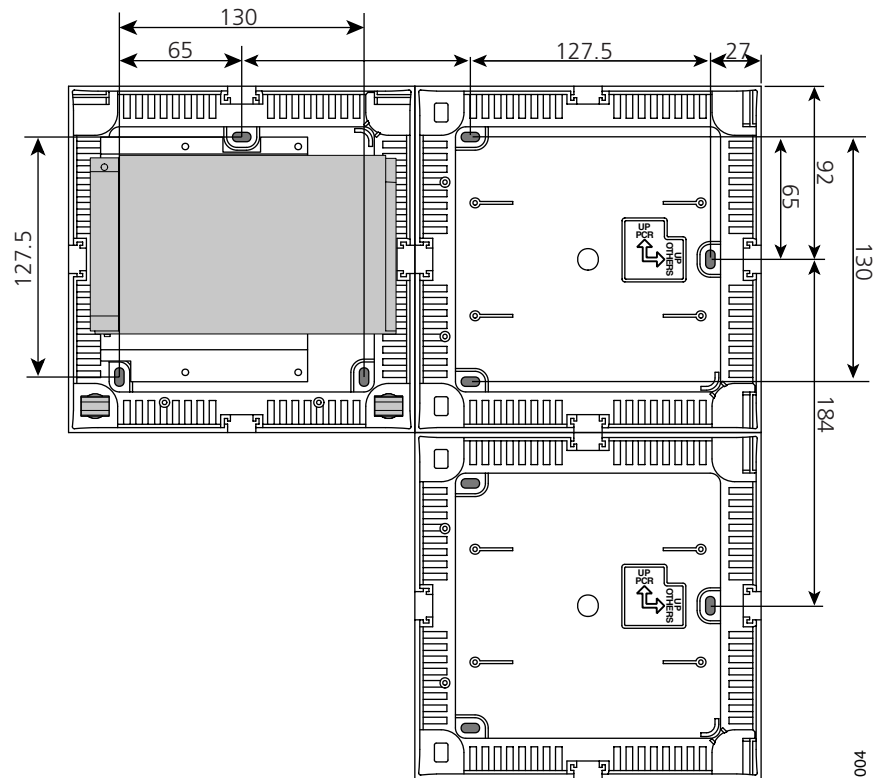

Figure 6. Mounting dimensions in mm.
- The PCR Charging Rack module must be mounted according to the label. See figure 6 on page 7.
- Measure and mark out the drill holes by using the dimensions in figure 6. Drill and fasten the modules on the wall with three screws.
- 2 Fasten each module on the wall with three screws, see figure 6 on page 7.